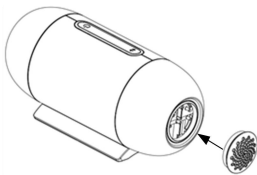

Fig. 11-2
2. Install the filter cap containing the air filter to the main device, as shown in Fig. 11-2.